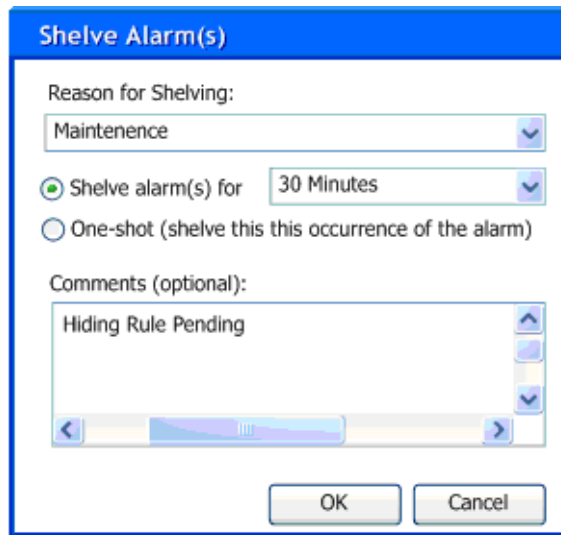

Figure 83. Shelve Alarm(s) Dialog
2. In the Shelve Alarm(s) dialog (Figure 83):